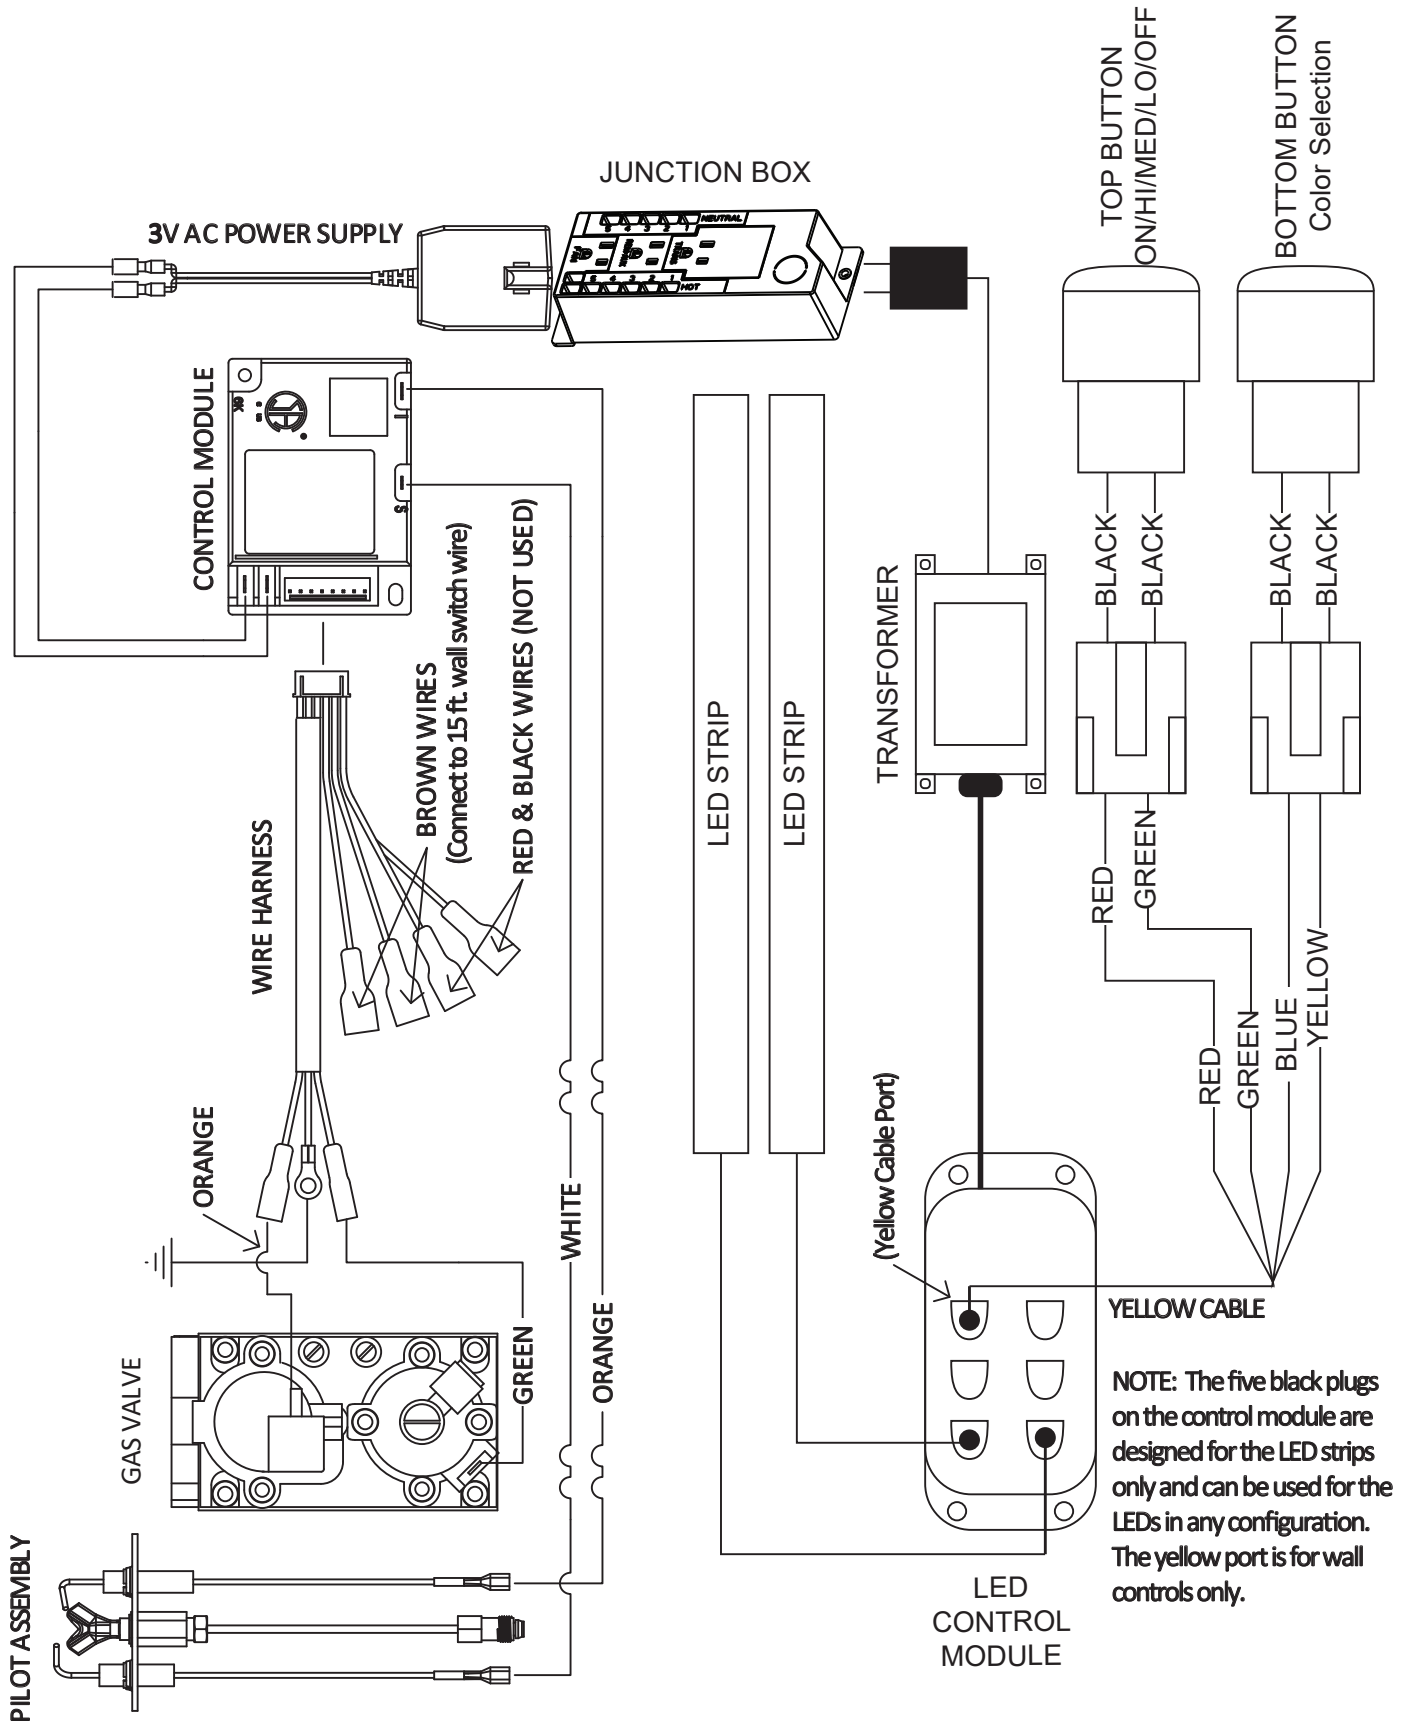

Figure 5.6. Wiring Diagram
- The rocker switch wire (Black/white) must be plugged into the two brown wires on the control wiring harness. There is no incorrect connection for these two wires. Shown in wiring diagram (Figure 5.6.)